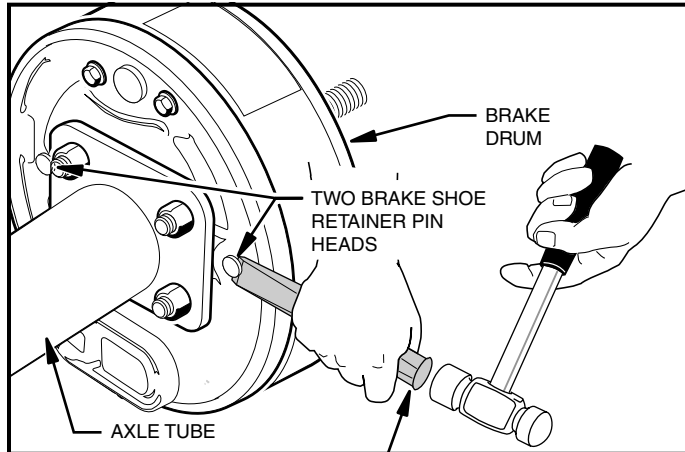

Figure 6-4 Shoe Retainer Pins
- 4.2. Insert a 1/2 x 5/8 inch cold chisel under the head of each pin and shear them off as illustrated (**Figure 6-4, Page 6-5**). This will release the shoes from the backing plate, allowing them to pivot away from the inside of the brake drum and allow the brake drum to be pulled free. After completing step 5, skip step 6.